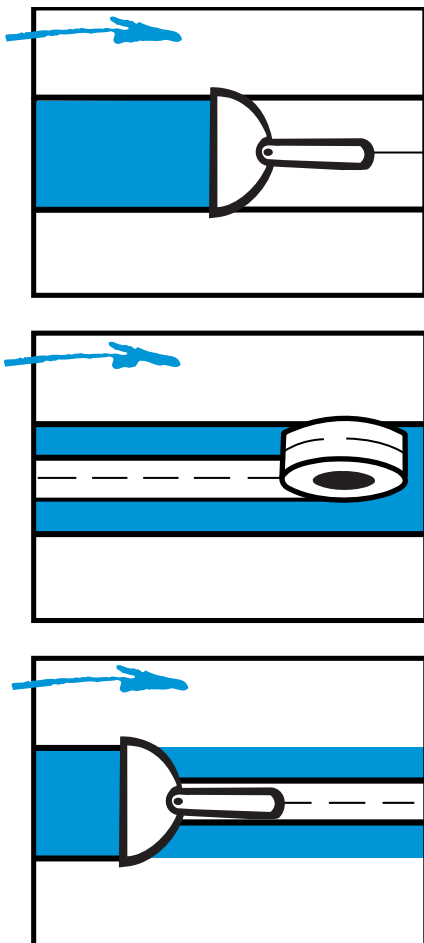

FIGURE 61 Bedding Coat
- > Place Siniat **paper tape** along the joint and bed it into the compound, removing excess compound and any air bubbles from behind the **paper tape** [Refer to Figure 61]